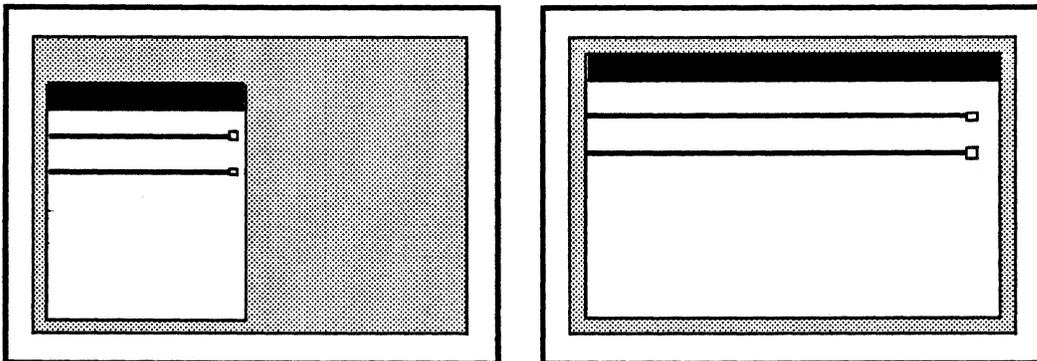

Figure 3.24
- 1) Select **Zoom** in the Window Manager Menu. Figure 3.24 shows a window before and after you issue the **Zoom** command.